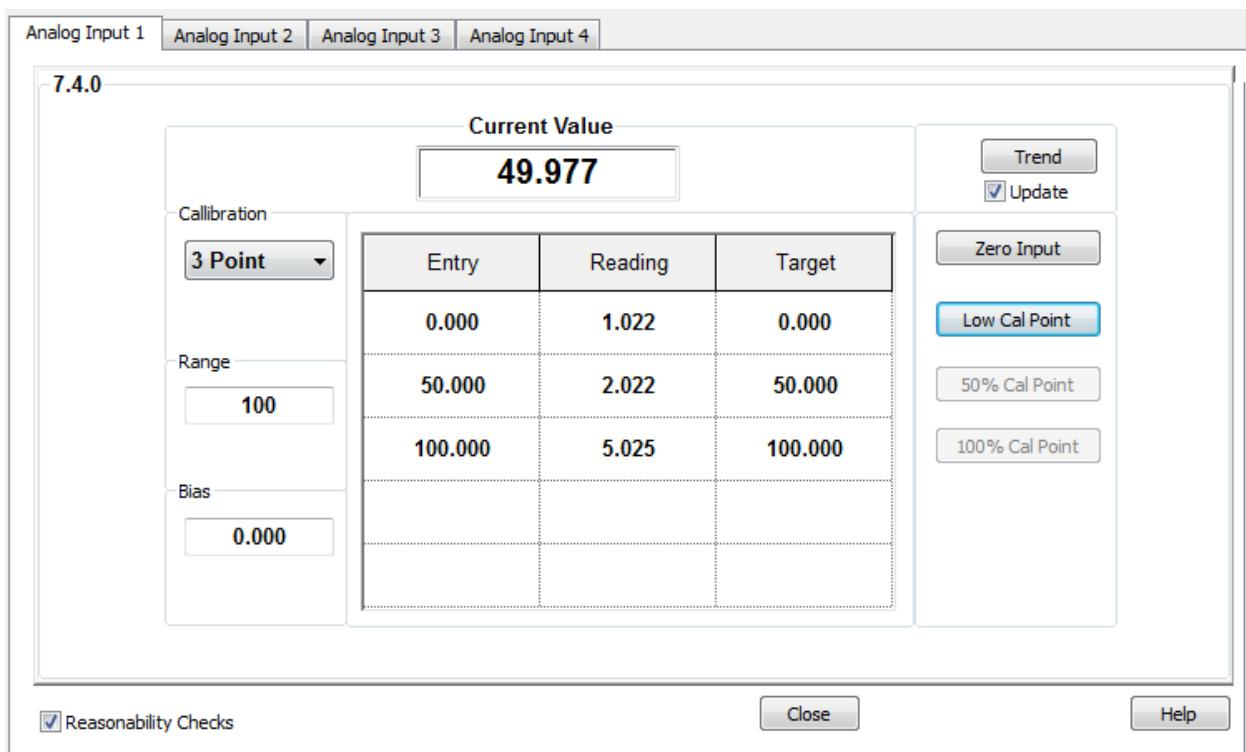

Figure 58: Calibrated AI example (voltage mode)
14. Verify the **Entry** values are updated and the Current Value field displays the calibrated value based on the range defined (Figure 58).